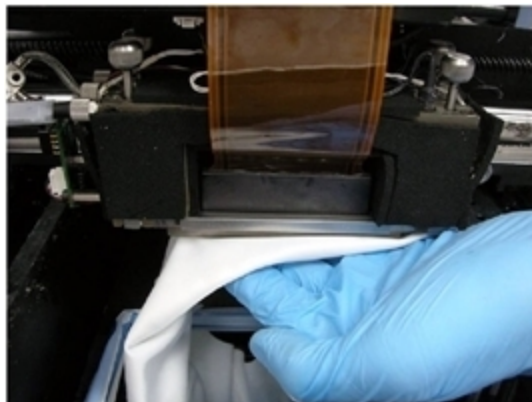

Figure 6-33 Cleaning the heads
- Clean the orifice plates, with a back-and-forth motion (see Figure 6-33). Use the mirror to make sure that you have removed all of the residue material.